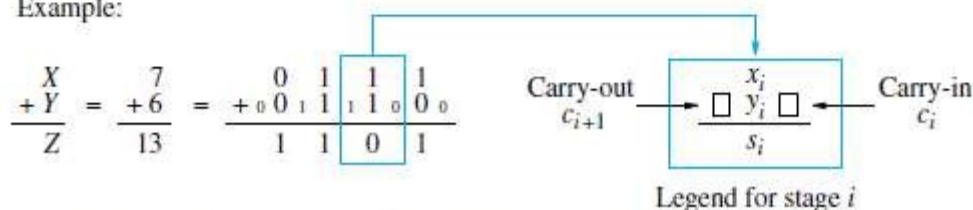

Figure 9.1 Logic specification for a stage of binary addition.
- Since carries must propagate (or ripple) through cascade, the configuration is called an n-bit ripple carry adder (Figure 9.1).